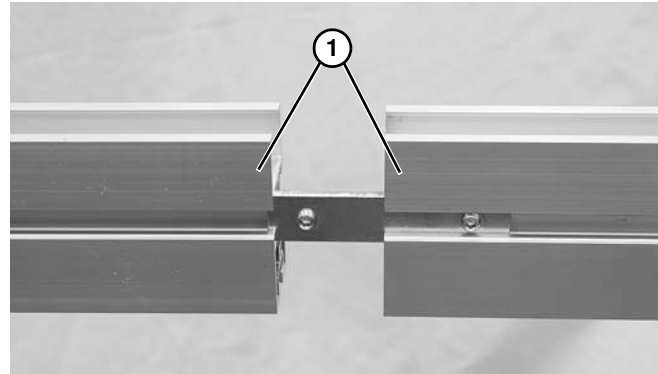

Figure 3
*Be sure all frame sections (**Figure 3, item 1**) are properly supported during assembly.*